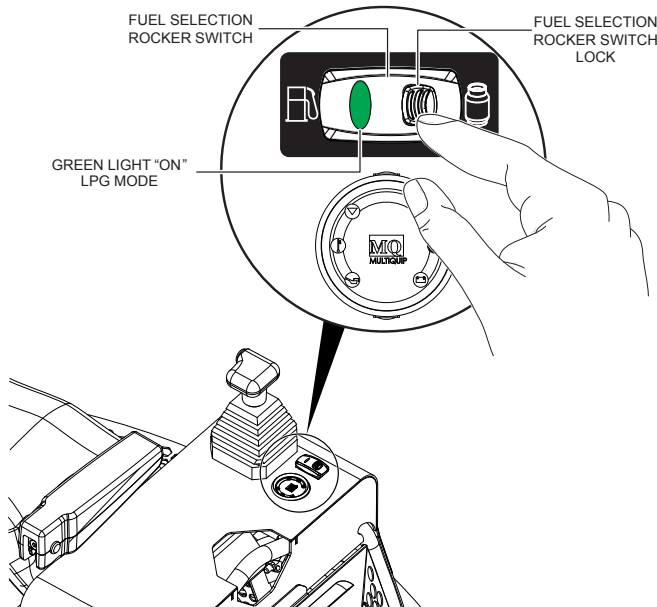

Figure 20. Fuel Selection Switch (LPG Mode)
7. To select **LPG** mode, press down on the right side of the fuel selection rocker switch. The **GREEN** light is **ON** (Figure 20).